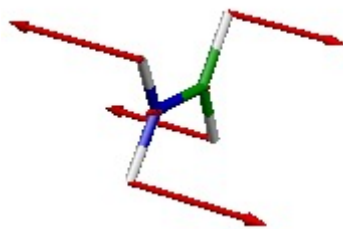

Fig. 4. Non-adiabatic coupling vector.
23. In the “frequencies” window mark show arrows and click choose and in frequency selection click on 5 and accept. The NAD vector will be plotted on the screen as in the Fig. 4.